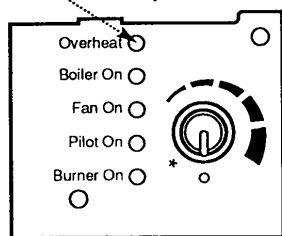

Fig. 79
7. Turn the boiler thermostat control knob fully anti-clockwise to the OFF position marked 0 (Fig. 79).